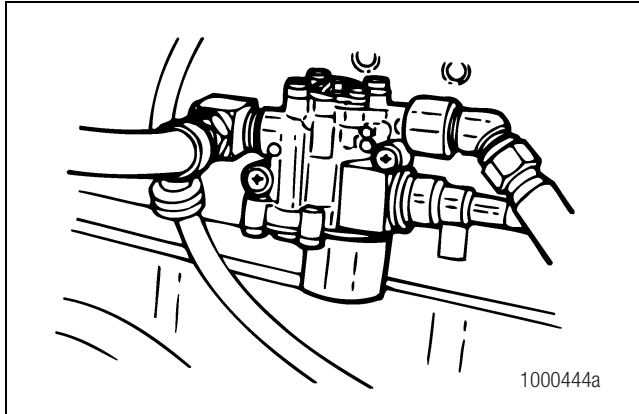

Figure 4.3
5. Disconnect the air lines from port 1, air supply, and port 2, air discharge, of the ABS valve. Figure 4.3.